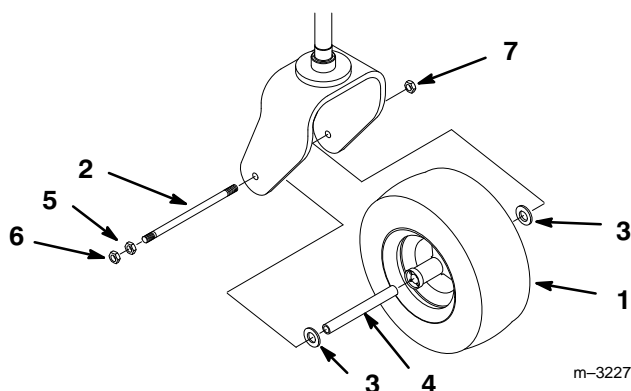

Figure 1
1. Remove nuts, washers, spacer and axle shaft from fork (Fig. 1).
2. Jack up rear of unit and install rear wheel into castor fork (Fig. 1).
3. Place wheel between fork and slide axle through bearings (Fig. 1).
6. Grease castor wheel bearings (Fig. 1).